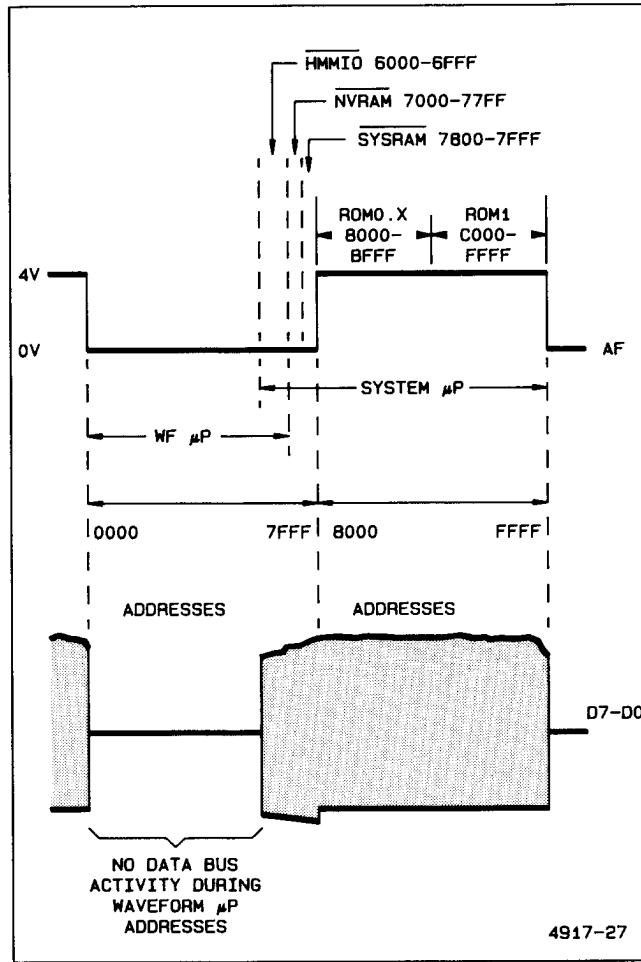

Figure 6-10. System  $\mu$ P data bit D7 in the Bus Isolate mode.
3. Check that no data bus activity is occurring during the Waveform  $\mu$ P address space (see Figure 6-10 to compare against). Faulty address decoding can cause response from an incorrectly addressed device.